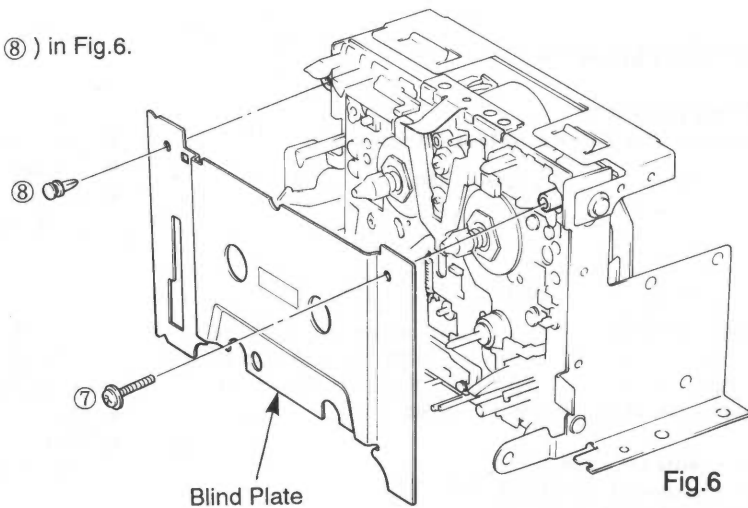

Fig.6
Remove 1 screw ( ⑦ ) and 1 plastic rivet ( ⑧ ) in Fig.6. and then remove the Blind Plate.